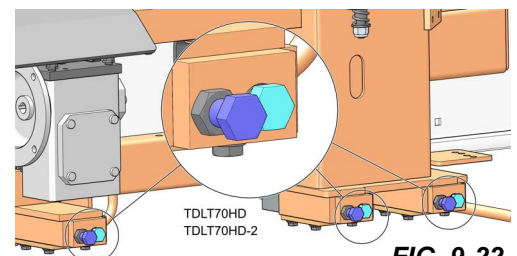

FIG. 9-22
4. Back out the stop bolt and jam nut. See FIG. 9-22.
5. To adjust the saw head tilt, use the bolts located at the bottom of the saw head mast/track rollers. See FIG. 9-22.